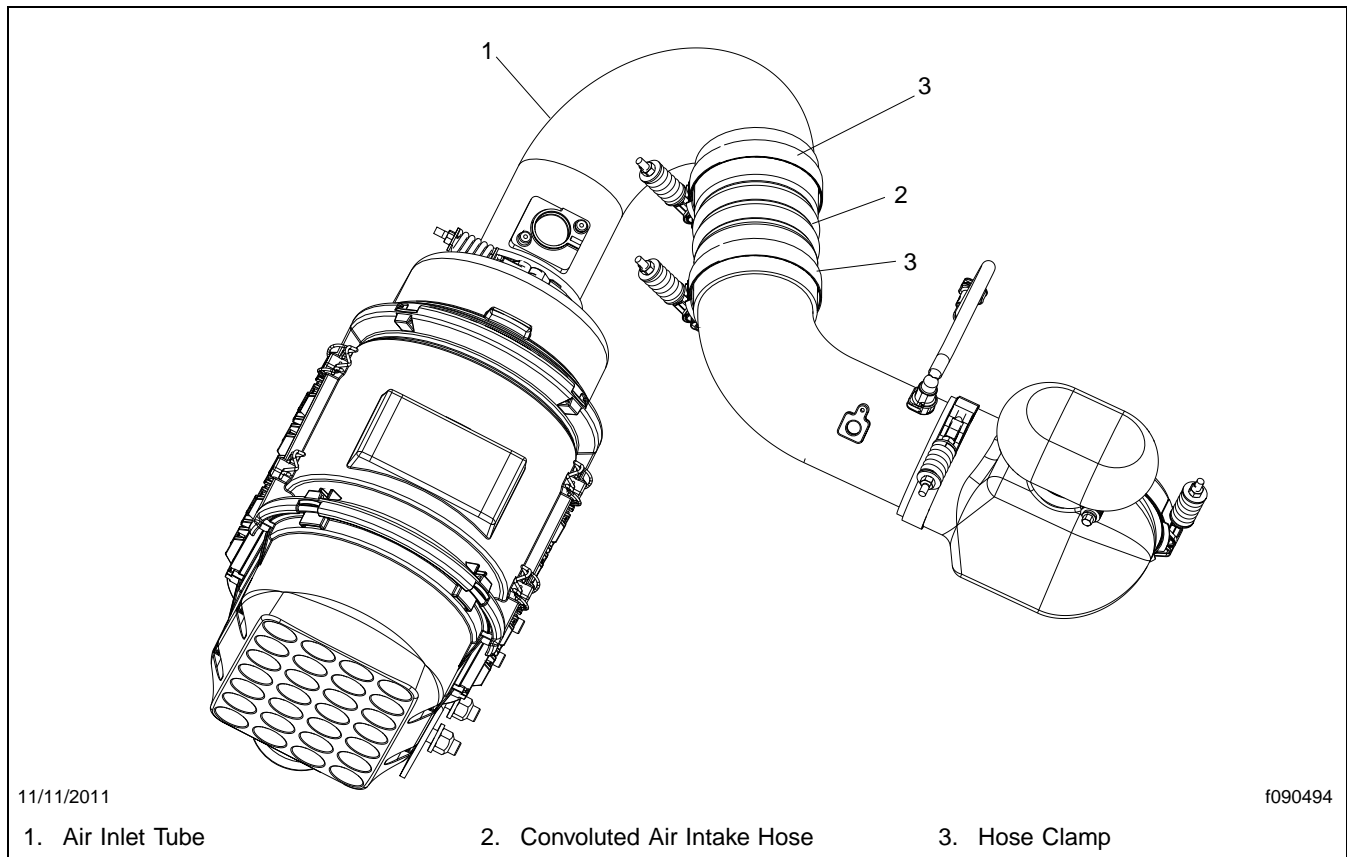

Fig. 1, Air Cleaner Assembly
4. Gently pull the convoluted air intake hose off of the air inlet tube and remove the hose clamp. See **Fig. 1**.
7. Position the new hose clamp as shown in **Fig. 1**, then tighten the clamp 98 lbf·in (1107 N·cm).